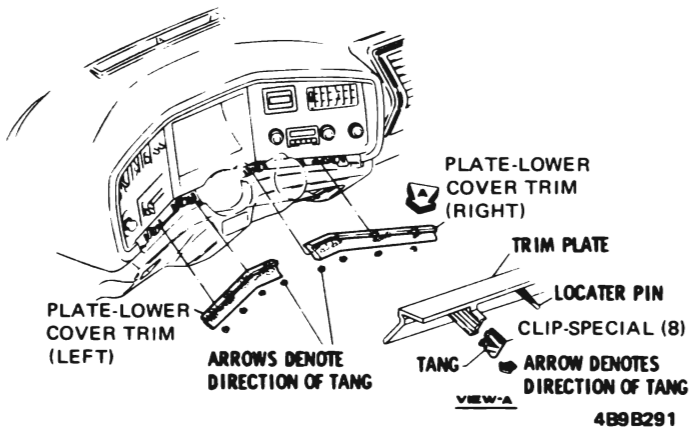

Figure 9B-233 Instrument Panel Lower Cover Trim Plates
2. Remove both lower instrument panel cover trim plates by prying underneath and pulling out. See Figure 9B-233.
3. Disconnect emergency brake release cable and trip set control cable if equipped, and remove lower left instrument panel cover assembly by removing eight retaining screws. See Figure 9B-234.